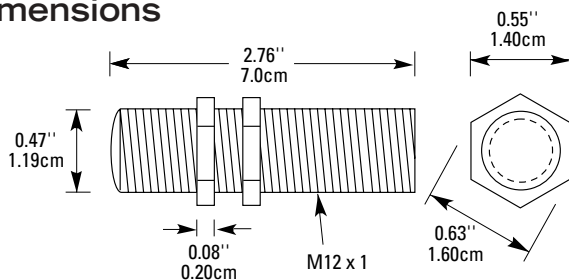

Figure 1
- The sense ranges are based on switch and actuator aligned so the sensing surfaces are face to face. (See Figure 1.)